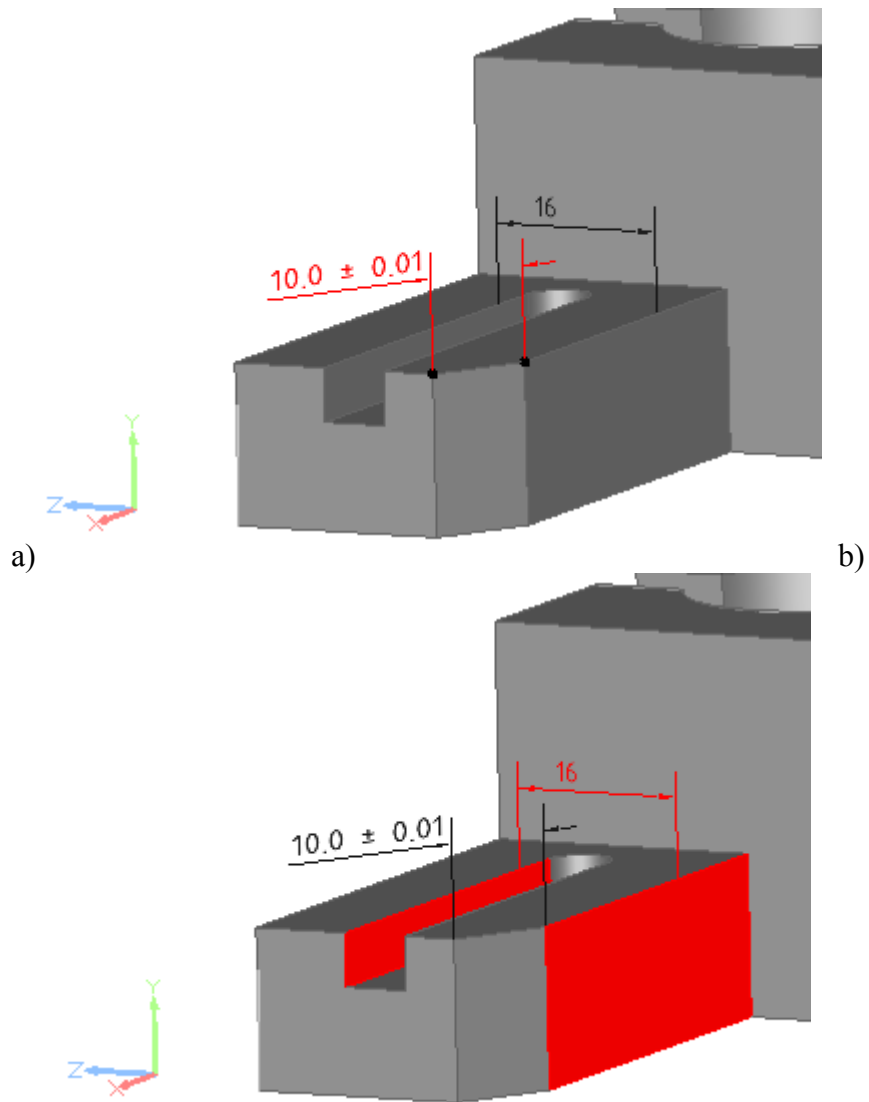

Figure 6. Presentation of distance dimensions in 3D View: a) between two vertex points and b) between two planes
- **Distance dimensions** (see Figure 6).